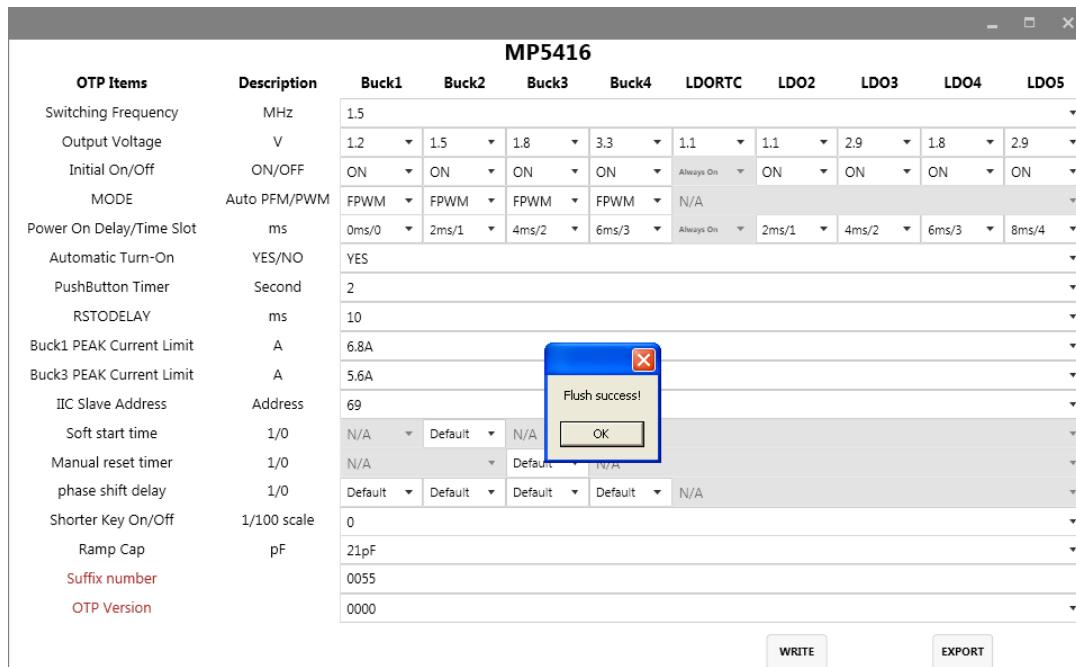

Figure 18: Screen Indicates that Configurations have been Written to MP5416-CCCC
15. Wait for a status screen (see Figure 18).